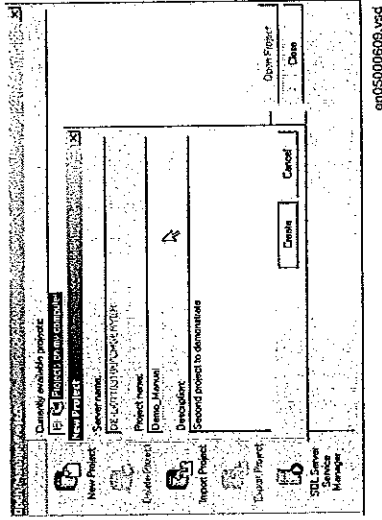

Figure 15: PCM600: Create a new project window
4. The *New Project* window opens, see Figure 15.